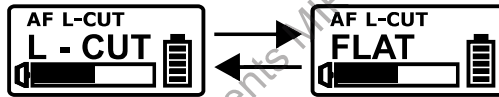

Fig. 11
- (B) AF L-CUT: AF Low-Cut Setting. Fig. 11
- (1) Select L-CUT or FLAT.
(2) L-CUT: the frequency response at 100Hz will decrease about 3dB with a slope of -6dB/Octave.